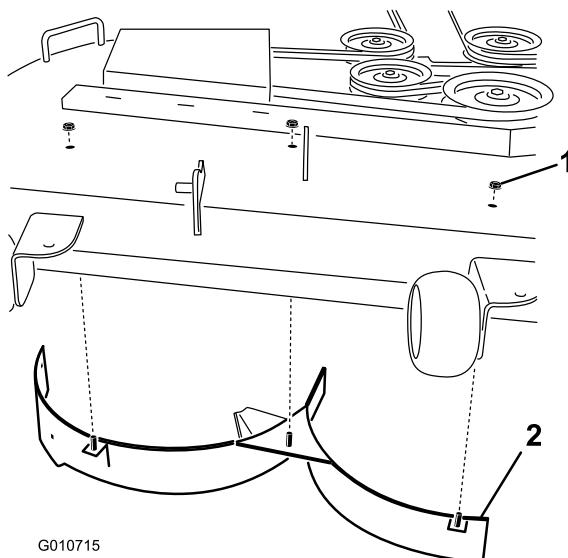

Figure 8
8. Install the right baffle to mower deck as shown in Figure 8. Use three lock nuts (5/16 inch) to secure the welded posts of the right baffle to the top of the mower deck at center, right of center and right positions. Hand tighten the fasteners.